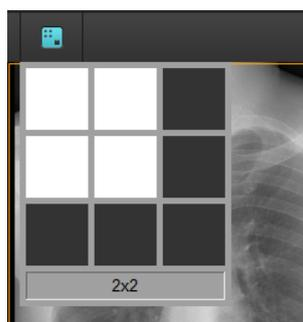

Figure 10.4 Image Layout
- ① **Image Layout:** Change image layout. When you click on the Image Layout button, a 3x3 grid shown in Figure 10.4 will appear on the screen. Select your desired layout. The largest image layout available 3x3.